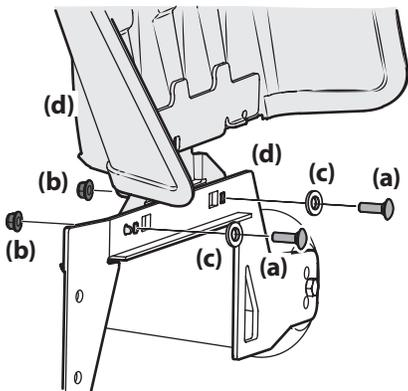

Figure 2-5
- Remove the carriage screws (a), flange lock nuts (b) and flat washers (c) installed on the mounting bracket (d) on the deck. See Figure 2-5.
- With the previously removed hardware, install the chute deflector on the deck as shown in Figure 2-5.